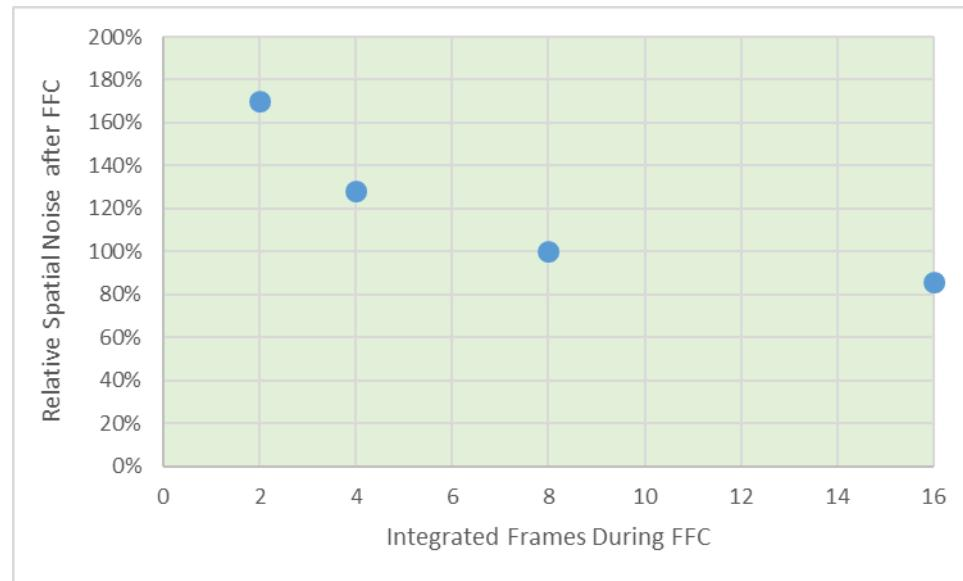

Figure 14: Relative Spatial Noise after FFC vs. Number of Integrated Frames (default = 8)
- **FFC Integration Period:** During each FFC event, the camera automatically integrates n frames of sensor data to generate the resulting correction term. **FFC Integration Period** specifies the value of n , either 4, 8 or 16. Utilizing fewer frames obviously decreases the FFC period (with diminishing returns due to overhead) whereas utilizing more frames provides greater reduction of spatial noise (also with diminishing returns due to 1/f noise). Figure 14 quantifies the benefit. A value of 8 is the factory-default value.